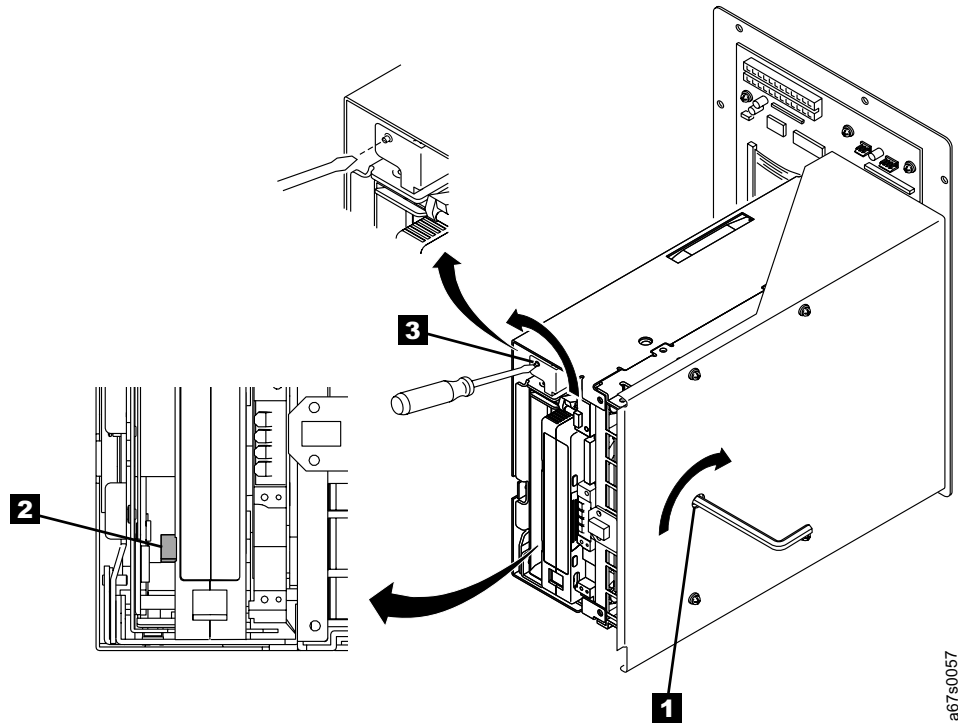

Figure 28. Determining whether the tape is broken
6. Place the drive assembly sled so that the front of the drive faces you, then stand it on its left side (see Figure 28 on page 91).
7. On the bottom of the drive assembly sled, locate the bottom access hole ( **1** in Figure 28 on page 91).
- If the takeup reel is not turning and the allen wrench rotates freely, the tape is broken or the tape (along with the leader pin) is completely contained in the cartridge. Insert a small-blade screwdriver or potentiometer-setting tool into the access hole of the loader motor gear ( **3** in Figure 28 on page 91). While guarding against excessive revolutions or force that may strip the gears and cause permanent damage to the drive, rotate the screwdriver counterclockwise:
1. With the allen wrench still inserted into the bottom access hole, insert a small-blade screwdriver or potentiometer-setting tool into the slotted shaft of the loader motor gear ( **3** in Figure 28 on page 91).